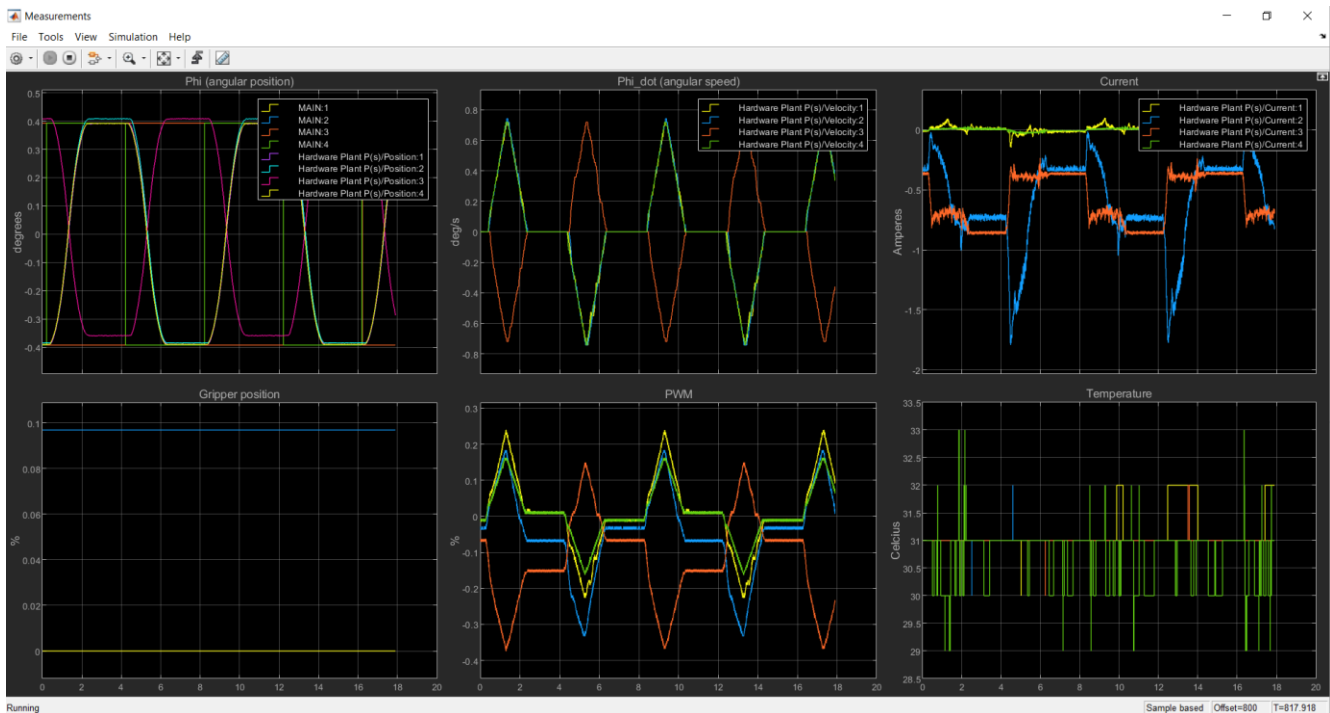

Figure 2: Sample results showing the base and shoulder joints following commanded setpoints
- With the Base, Shoulder, Elbow and Wrist all at 0, toggle the four switches away from 0 towards the square waveform. The QArm should move between 2 sample positions. Using the **Measurements** scope verify that each joint follows the commanded setpoint. Sample results are shown in Figure 2.